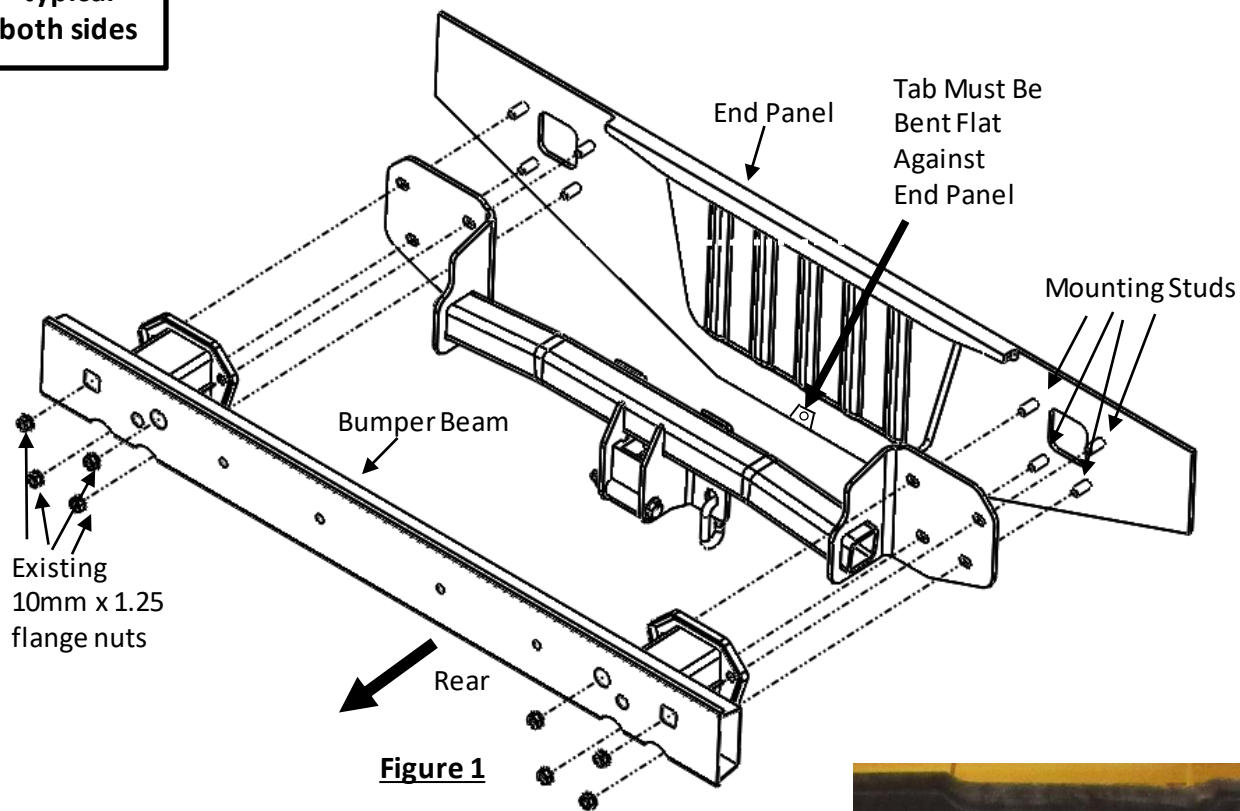

Figure 1
b) Remove the plastic tail light cover by using a Flat Head and a Phillips Head screw driver to remove (2) screw type push pins (each side).
c) Using a 10mm Socket remove (2) screws from the tail light (each side).
d) Pull the tail light rearward and remove (2) bulbs and (1) electrical connector from the tail light assembly (each side).
4. **Remove Fascia** - *NOTE- Save all fasteners for reinstallation. a) Remove (1) push pin from the wheel well. (each side) Using a Phillips Head screw driver push on the center of the push pin and then remove. *NOTE- If mud flaps are installed at the bottom of the wheel well and fascia using a Phillips Head screw driver remove (3) screws , using a Flat Head screw driver remove (2) push pins (each side).
b) Using a Flat Head screw driver remove (7) push pins along the bottom edge of the fascia.
c) Using a Flat Head screw driver open the tab on the fascia under the tail light. Using a 10mm socket remove (1) screw (each side)
5. **Remove Bumper Beam**- Remove the foam fascia support from the bumper exposing access holes. Using a 14mm socket remove (4) nuts and save for hitch installation. (each side)
6. **Install Hitch**- *SEE FIGURE 1. Bend center fascia tab flat against the end panel. Raise the hitch and bumper beam into position onto the studs in the end panel. Loosely reinstall the (8) flange nuts removed in step 3 (4 each side)